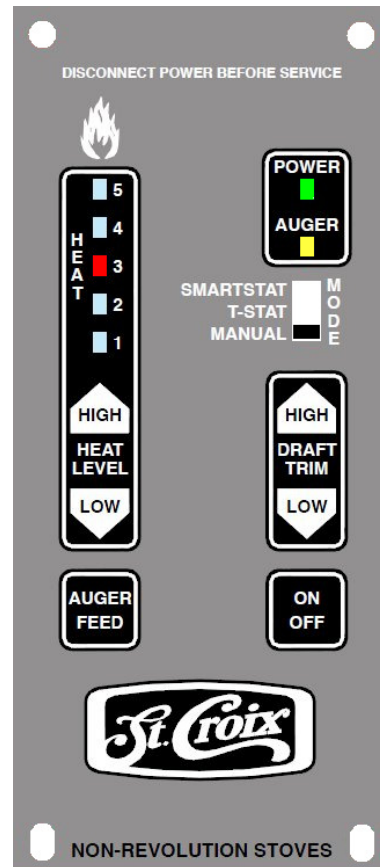

Figure 18
A closer look at the Control Board to the right in figure 18 will explain how the board works. There are essentially 4 buttons on the control board. Two of these buttons, the **Heat Level** and **Trim** Buttons, have a High/Low side to advance these settings up or down. There is a **Slide Switch** that controls the Thermostat Mode and an **LED Light** bar that indicates which of the 5 Heat Settings the Auburn is running on.
4. Close the door and push the On/Off button on the control board. *(See figure 18 on page 26)*